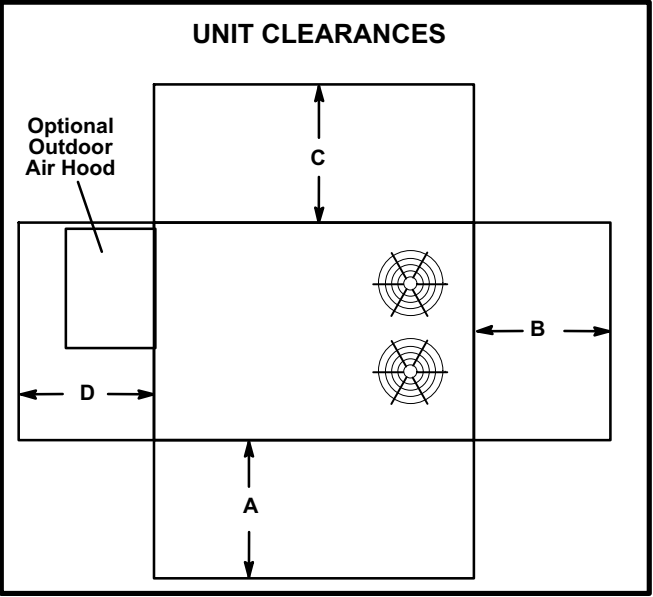

FIGURE 1
The LHT/LDT unit is ETL/CSA certified for outdoor installations only at the clearances to combustible materials listed on unit nameplate and in figure 1.
The LDT unit is ETL/CSA certified as a heat pump with cooling and auxiliary gas heat for non-residential use only at the clearances to combustible materials as listed on the unit nameplate and in figure 1.
- 2- Specified installation clearances must be maintained when installing units. Refer to figure 1.